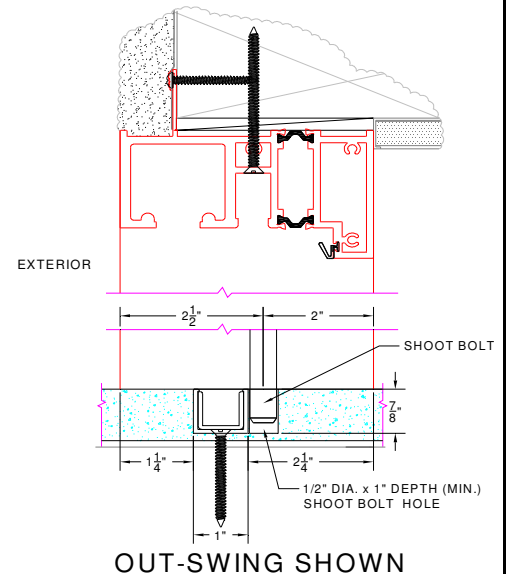

Figure 16:
3. Set Flush Track on the sub-floor correctly, in relation to the head and jambs of the frame (Figure 16). The pre-drilled Bottom Pivot anchor holes are not on center so Flush Track orientation is crucial (the pivot anchor holes are offset closest to the weather-stripped side of the jamb). If you are cutting a channel in the subfloor to insert the Flush Track, keep in mind it must sit level to the Head Track and a self leveling compound such as "Rock Hard" may be required to maintain a stable level base for the Flush Track to rest on. Once the sub-floor has been adequately prepared for the Flush Track, mark the anchor location and the Bottom Pivot location(s) on the sub-floor. Remove the Flush Track and pre-drill the marked locations to accept required anchor sizes. Bottom Pivot requires #10 x min.1.5" flat head anchors.